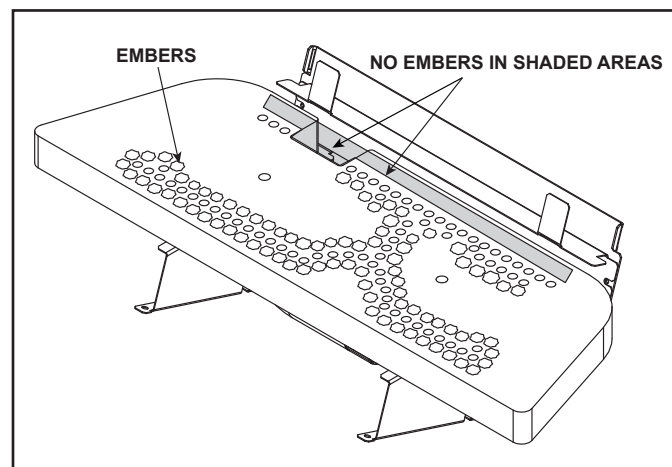

Figure 14.2 Placement of Embers
- Embers may only be placed in areas as shown in Figure 14.2.